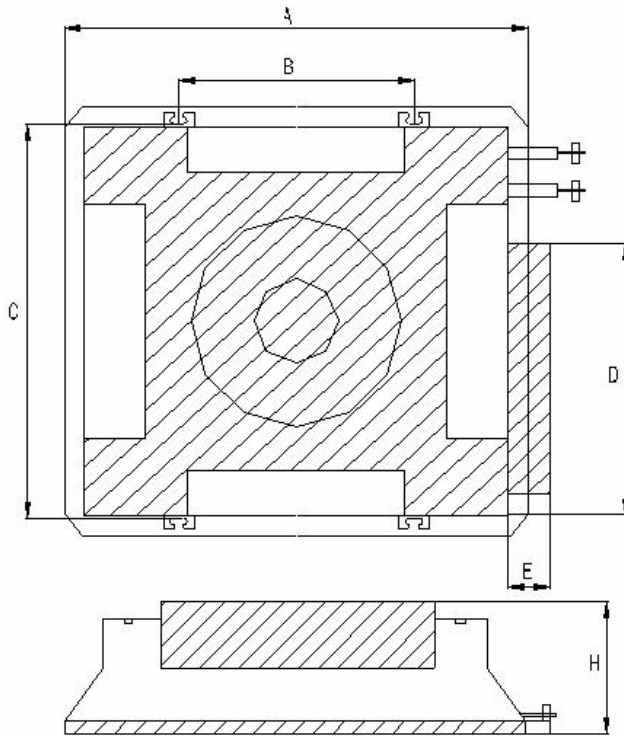

Fig.7
1. Use installation template (supplied with the panel) when deciding the suspension bolt position. Fig.7 and table 1 show the dimensions relationship.